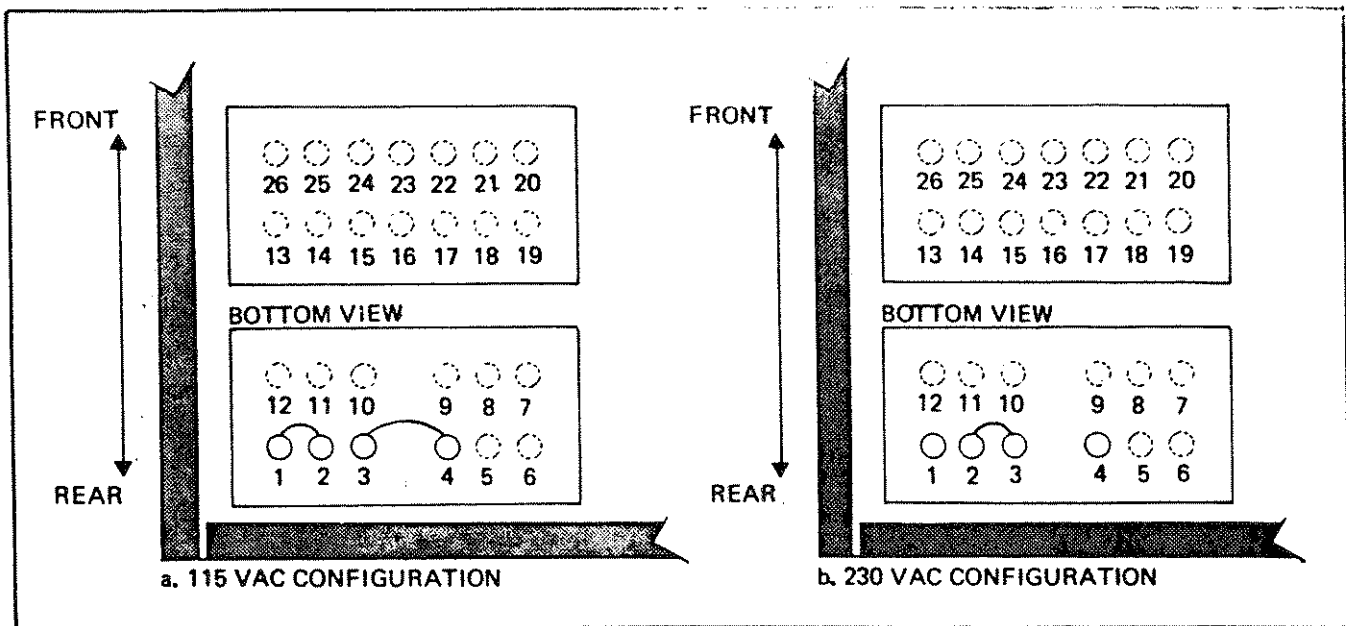

Figure 4-4 115/230 VAC CONVERSION
- c. Orient the instrument and perform the appropriate electrical connections as illustrated in Figure 4-4.